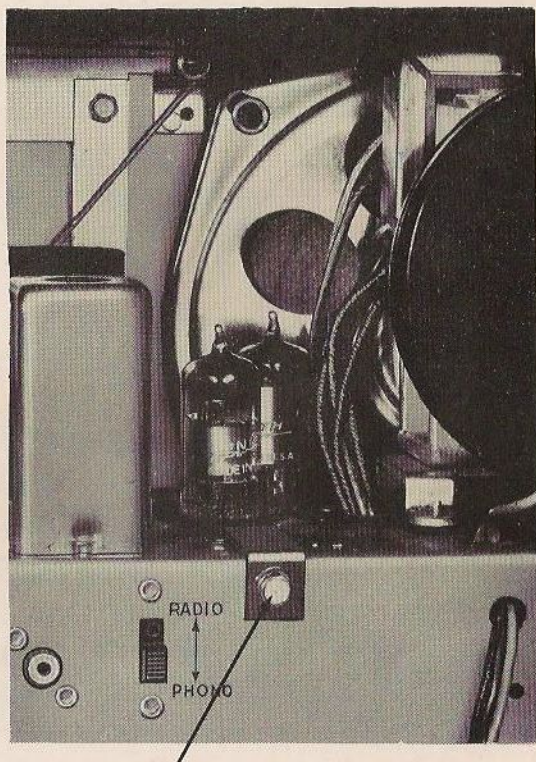

Figure 5—Remove screw to take off ballast adaptor cover plate.
- E. If the receiver is to be used in locations where a current supply of 220-240 Volts AC or DC is available, ballast adaptor S-15715 should be used. This ballast adaptor assembly can be obtained from your local Zenith distributor and need only be plugged into the ballast adaptor socket. The ballast adaptor socket is under the cover plate. This cover plate can be removed by unfastening the cover plate mounting screw. (See fig. 5.)